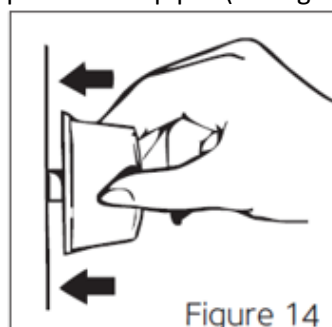
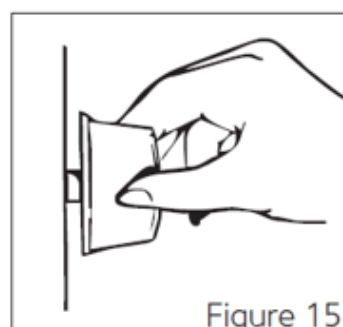

Figure 14
Figure 15
3. To use the cooker burner of your preference, first press the knob in the direction of the arrow and wait 5 seconds for air to escape from the pipes (see figure 14).
**Auto ignition with a knob:** you can ignite the cooker burner of your preference by pressing the knob in the direction of the arrow (See figure 14) and rotating the knob (See figure 15).